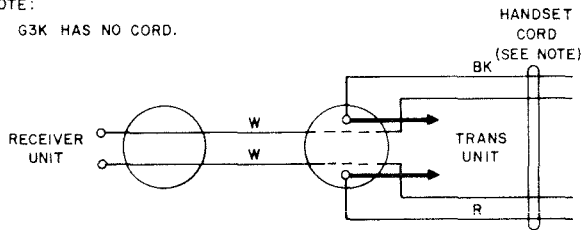
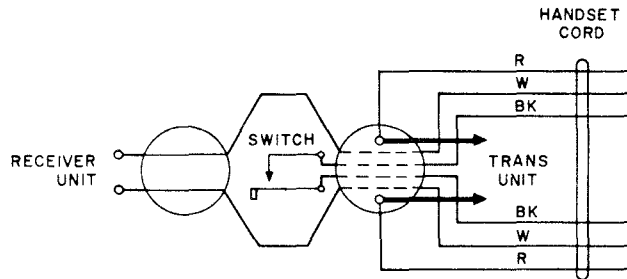

Fig. 7—G1AR, G1FR, G1G, G1J, G3AR, G3BR, G3FR, G3K, G3M, G3P, G3R, G3S, G3T, G4AR, G4B, G3AA, and G3AC Handsets
Fig. 19—G5BR, G5KR, and G5PR Handsets
4.01 Fig. 7 through Fig. 19 show internal connections for the G-series handsets. See Tables A, B, and C for types of receiver and transmitter units.